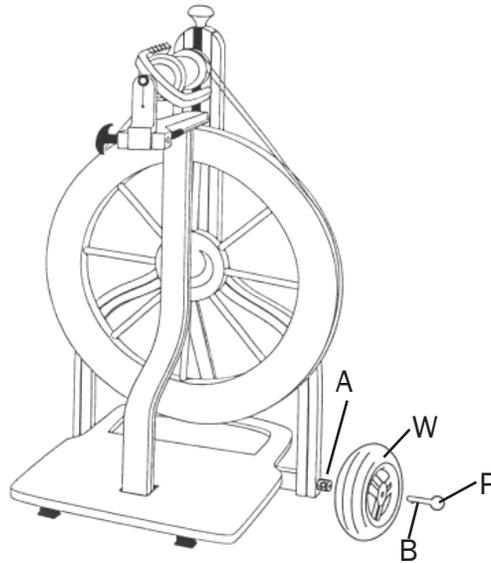

Figure 2
1. To install the cart wheels (W), insert the hitch pins (P) through the wheels and into the hole in the end of the axle bolts (Figure 2). Turn the pin until the small ball (B) in the end fits into the cross hole (H) in the axle.